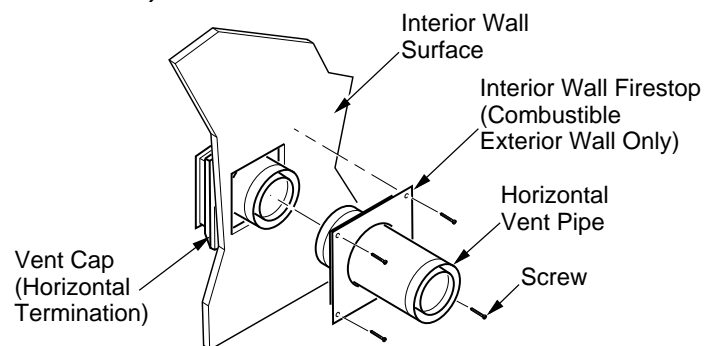

Figure 30 - Connecting Vent Cap with Horizontal Vent Pipe
- Combustible Exterior Wall Only:** Slide the wall firestop against the interior wall surface and attach with screws provided (see Figure 30).
- Combustible Exterior Wall Only:** Slide the interior wall firestop over the vent pipe before connecting the horizontal run to the vent cap (see Figure 30).